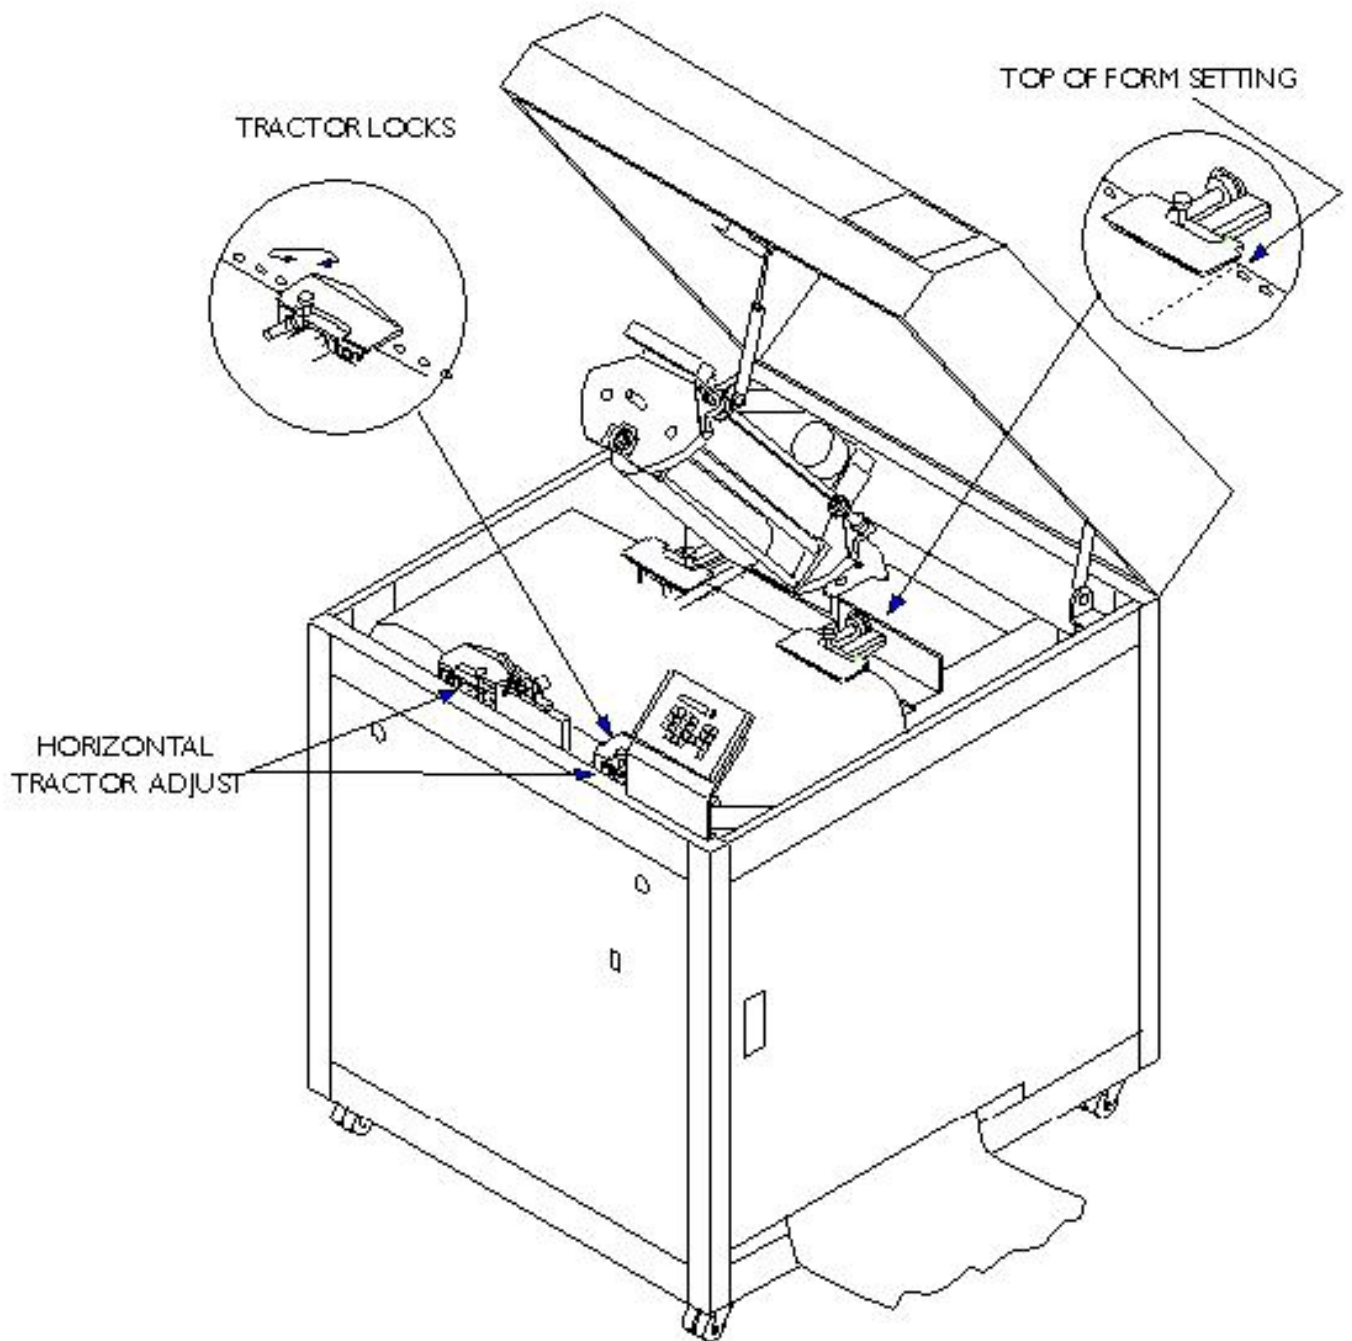

Figure 3.5 Paper Loading
- A. With the printer in the offline state, loosen the four tractor lock knobs to permit horizontal tractor alignment. Open the tractor doors. (See Figure 3.5)
- A. Place the printer in the OFFLINE mode. Use the Up/Down Arrow and/or LINE FEED keys to align the top of the first line of a form to the bottom of the right bottom tractor door, as seen in Figure 3.5.